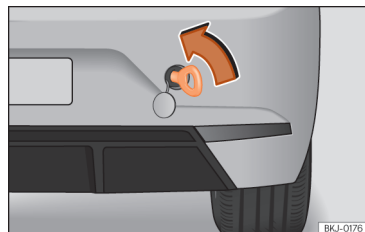

Fig. 160 Right side of the rear bumper: towline anchorage screwed in.
- Screw the towing eye in the housing by turning it to the maximum **anticlockwise** >>> **Fig. 160** , >>> **page 250**. Use a suitable object that can completely and securely tighten the towing eye in its housing.